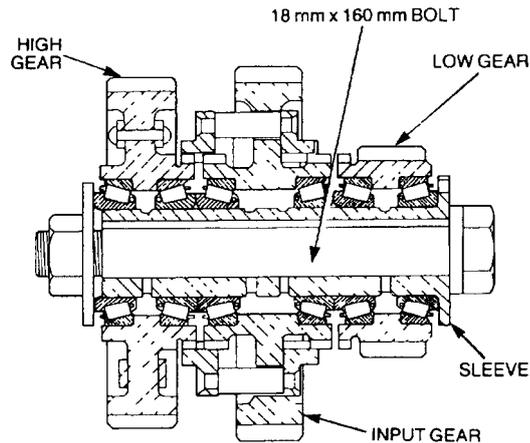

Figure 193 Intermediate Gear Assembly Pre-load Adjustment
- n.** Using an 18 mm bolt, nut and large flat washers as a clamping mechanism (Figure 193), gradually tighten the nut to 130 N.m (96 lbf.ft) to pre-load the bearings while rotating and tapping the gears.
- p.** Using a dial indicator, measure the gap between the shoulder of the sleeve and the face of the bearings (Figure 193) and select a shim washer to obtain a pre-load of 0.1 to 0.2 mm (0.004 to 0.008 in).